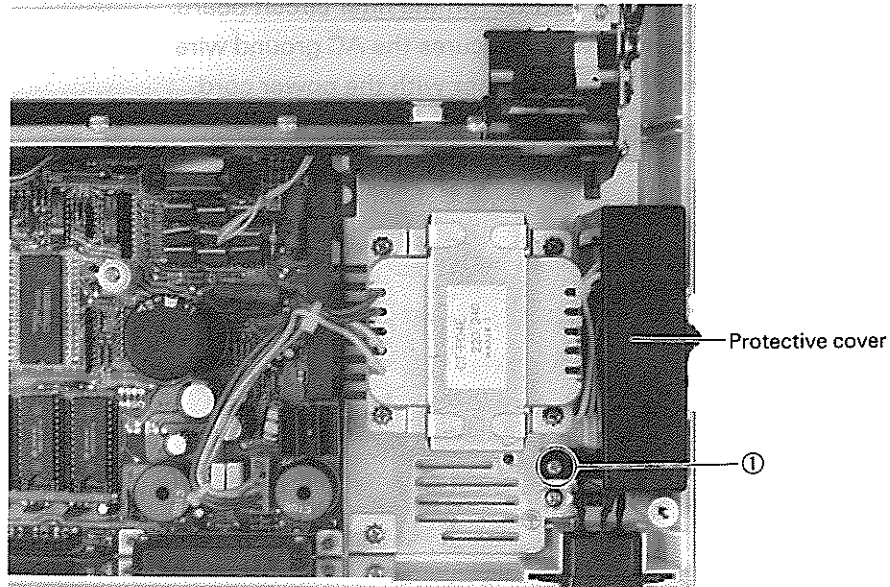

Fig. 4-12. Removal of Protective Cover (220/240V)
- Step 5: Remove the fixing screw ① which holds the ground line from the power transformer to the base plate.
- Step 6: Remove the four power transformer fixing screws ②.
(2) 220/240V version (Figs. 4-12 and 4-13)
- Step 3: Remove the fixing screw ① which secures the protective cover on the filter circuit board, then remove the protective cover.